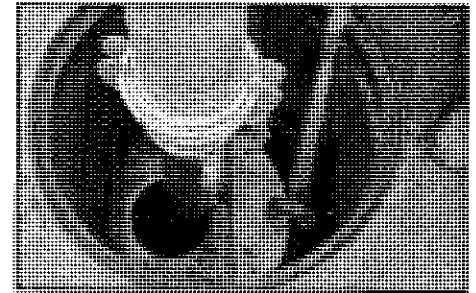

Figure 6
Floatables cleanout is typically done in conjunction with sediment removal. A commercially or municipally owned sump-vac is used to remove captured sediment and floatables. Figure 6.
6. Once all floatables have been removed, drop the vactor hose to the base of the sump via the Central Access Port. Vactor out the sediment and gross debris off the sump floor. Figure 6.